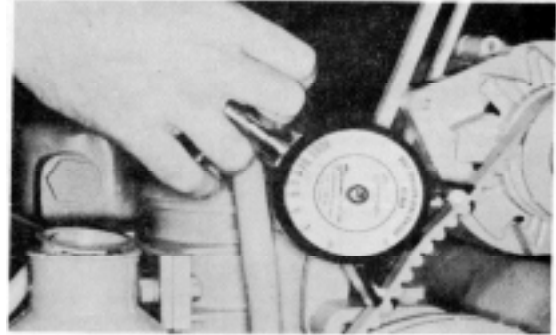

Fig. 2-27, (Ni1977) Checking belt tension
1. Using appropriate gauge, Fig. 2-27, check and/or adjust belts to tension as indicated in Table 2-2.